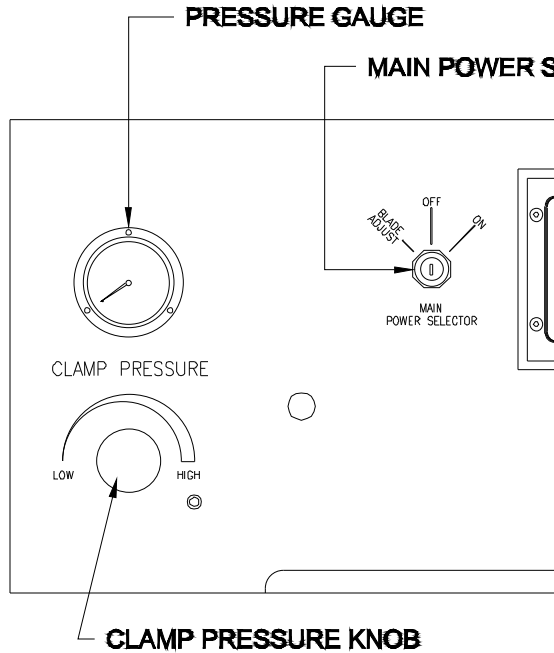

Fig 46
1. Remove the black “Clamp Pressure Knob” Fig. 46 located on the front face of the cutter with a 3/32” Allen wrench.
4. Turn the “Main Power Selector” switch Fig. 46 to “ON” and allow the MPS to reset. Press the “Black Cut Buttons” at the front of the cutter table to start the hydraulic motor.
10. Install the Clamp Pressure Knob Fig. 46 and tighten the setscrew.